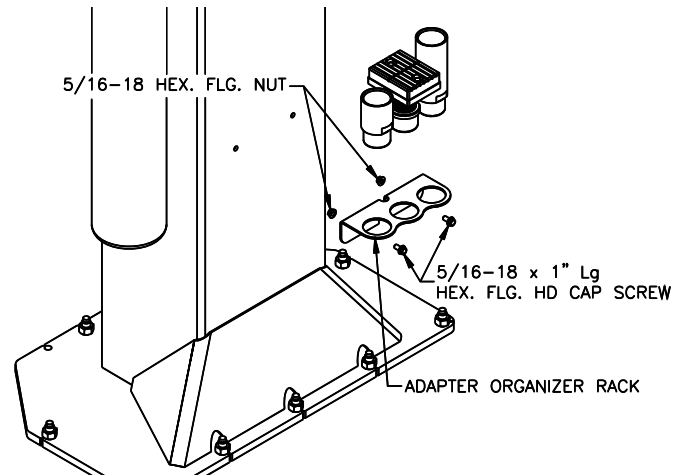

Fig. 20 – Adapter Rack Installation
- 63) Locate the two pre-drilled holes on the back of each column 19” up from the top of the base plate. Center the adapter rack and attach with 5/16”-18NC x 1” Lg hex flange cap screw and 5/16” hex flange nut (**Fig.20**).